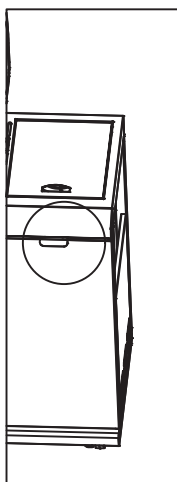

Figure 1
- 1) Remove the two screws underneath the side burner as in Figure 1.